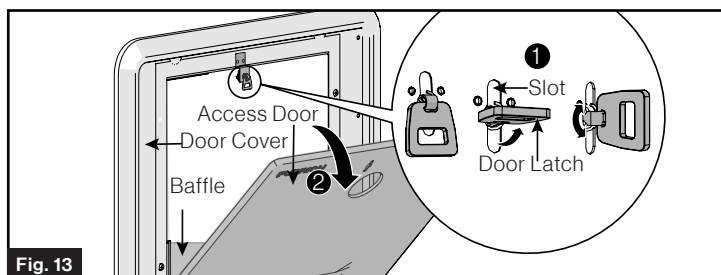

Fig. 13
- Remove the access door and frame from the box, separate the components. (Fig. 13)
- Step ① : separate the access door from the mounting frame. Lift the latch and rotate 90° to unlock the door cover from the trim.
- Step ② : Pull the access door from the mounting frame.